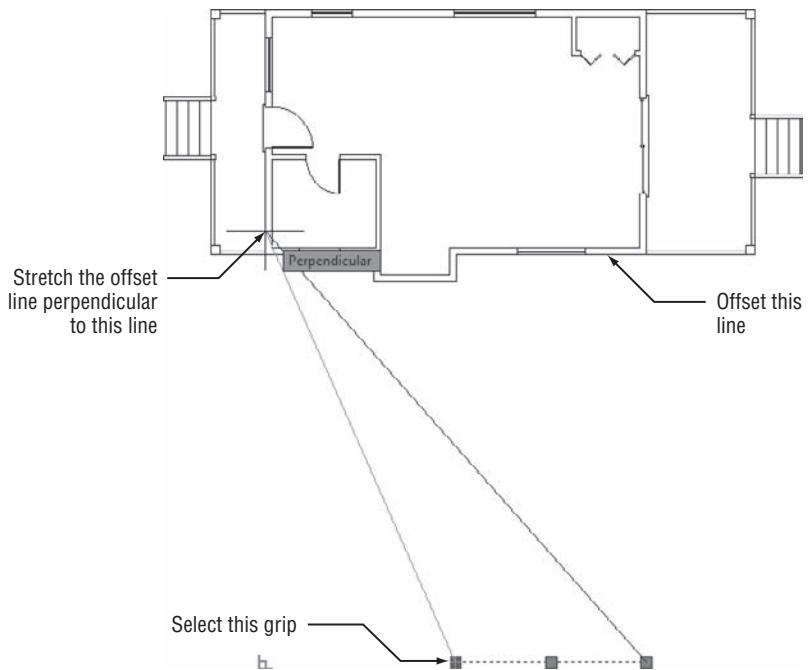

FIGURE 10.2 Using the grip to stretch the offset line
5. Select the object and, when the grips are visible, click the left grip. Use the Perpendicular osnap to stretch the line to the left extent of the building, as shown in Figure 10.2.